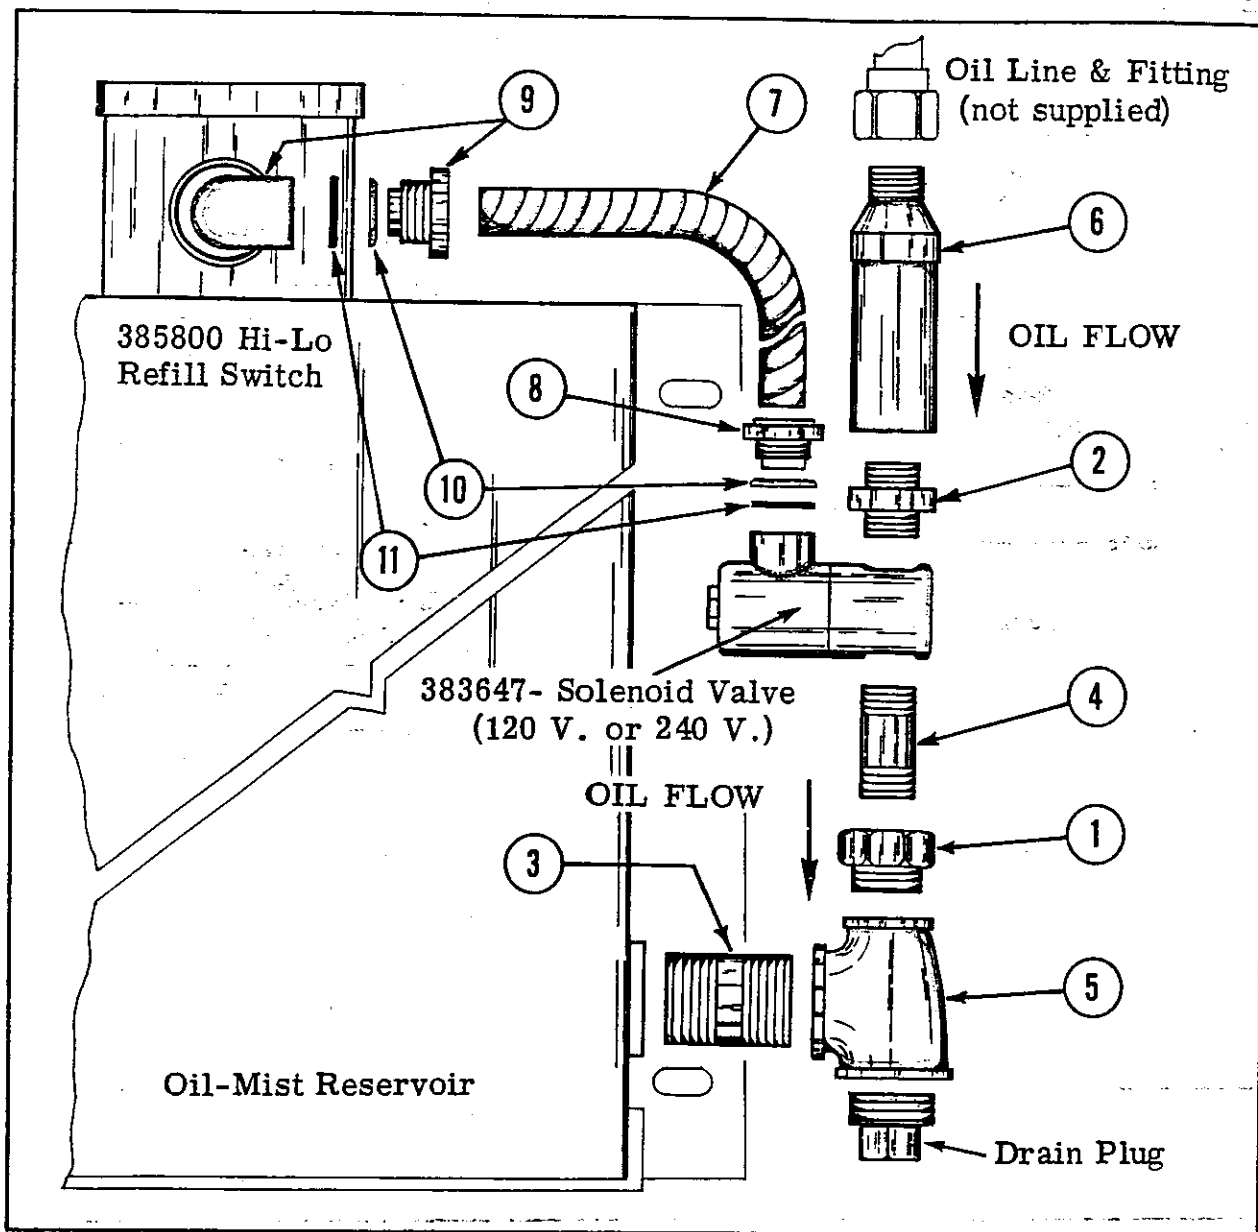
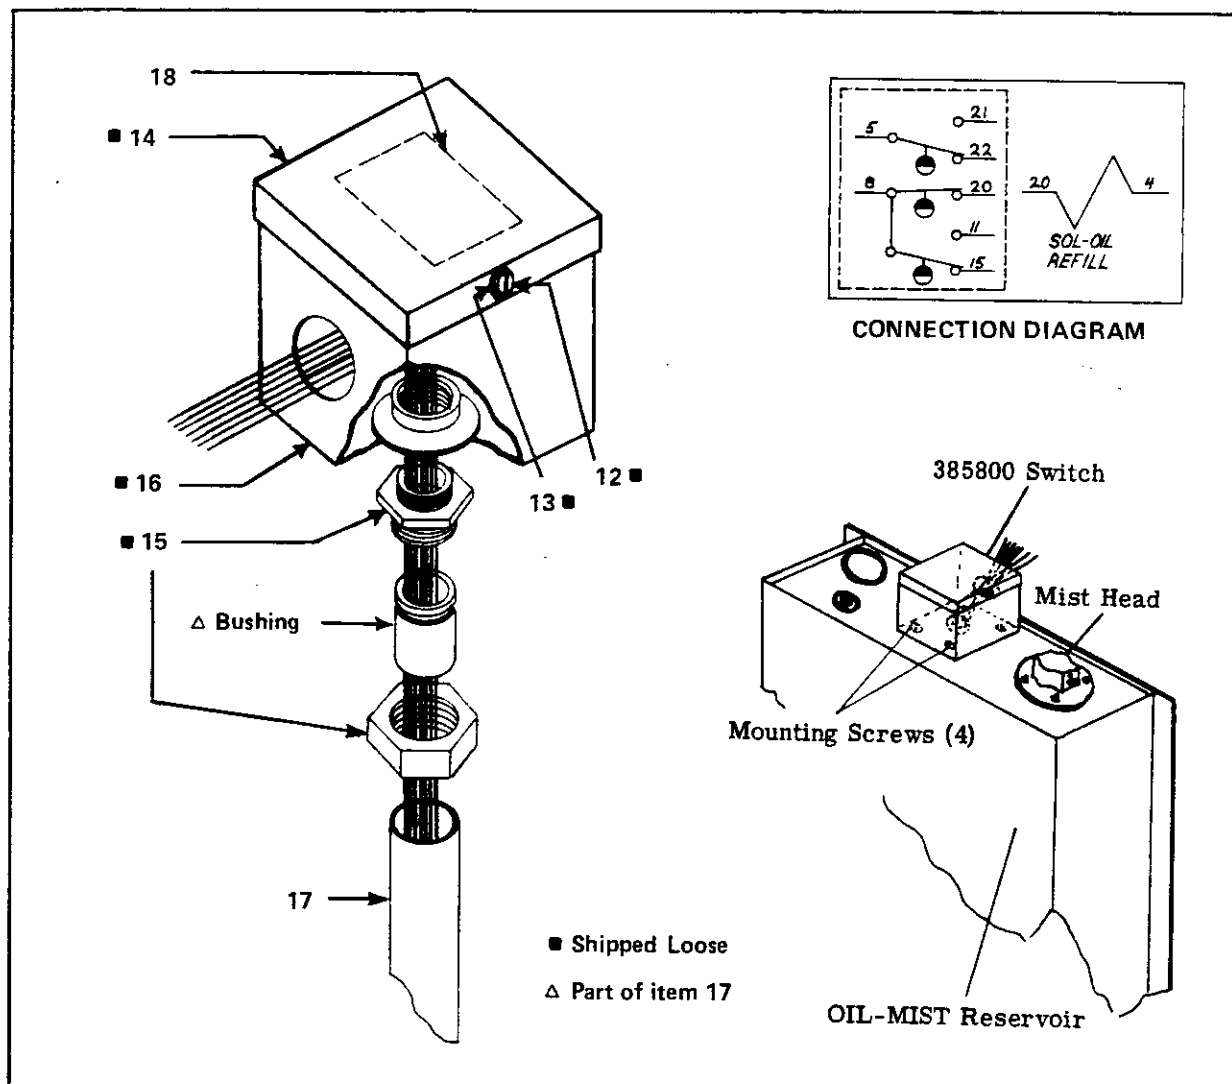

Figure 1. 385787 Hi-Lo Refill Switch Kit
Figure 2. Assembling 385800 Hi-Lo Refill Switch
- 385788-A1** Adds 383647-A1 Solenoid Valve (120 V.) to the 385787 Kit for complete installation fittings needed for Automatic Refill capability. (See "INSTALLATION", page 1, and Figure 1.
- 385788-B1** Same as above, but with higher-voltage 383647 Solenoid Valve (240 V.) in place of 383647-1 (120 V.) unit. (See "INSTALLATION", page 1, and Figure 1.
NOTE: See Detail Drawing, Figure 2, and "ASSEMBLY", page 2, for 385800 Hi-Lo Refill Switch. See Figure 1 for 385787 Hi-Lo Refill Switch Kit Installation.
See Wiring Diagram, Figure 2
ASSEMBLY OF SWITCH (See Figure 2)
3. Thread Switch leads through access opening. Fit Decal-Wiring Diagram in a prominent position. (See Item [18], Figure 2) Replace Cover [14] with two Screws [12] and two Lockwashers [13].
PART LIST FOR 385787 HI-LO REFILL SWITCH KIT (See Figure 1)